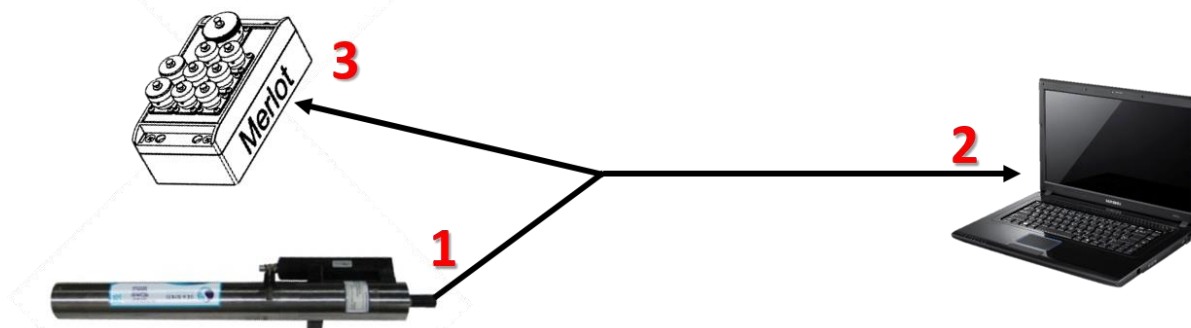
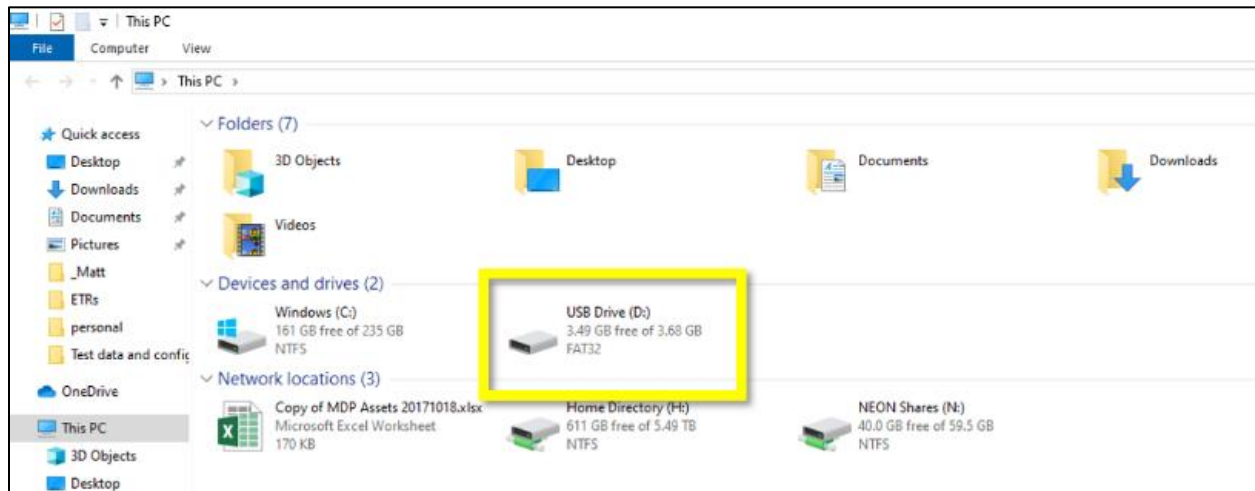

Figure 1. How to Connect to the SUNA with the SUNA Y-Cable - Order of Operations
Figure 2. Navigate to This PC and Click on USB Drive
To connect to the SUNA, plug into the SUNA sensor and USB into the Laptop, **THEN** plug the cable into the power supply or Grape (See AD [01] or AD [02], as applicable, for additional information). Follow the order of operations provided in **Figure 1**. Ensure the PoE Power Cable (Cable that connects to the Grape to the Comm Box) is disconnected from the Grape before plugging and unplugging sensors or the Y-cable into it.
1. After connecting to the SUNA in accordance with Section 4.2 (**Figure 1**), open your laptop and open a **File Explorer** window. Navigate to **This PC** and click on the **USB Drive** (**Figure 2**). Note that your Drive letter may be different on your laptop.
*Note: Your laptop may not immediately recognize the SUNA as a hard drive due to its super capacitor, especially if the order of operations on connecting to the SUNA was not followed (see Figure 1 from the previous section). If you do not see the SUNA USB Drive, power down the sensor for approximately 15 minutes and try again, reconnecting the sensor in the order of operations in Section 4.2.*